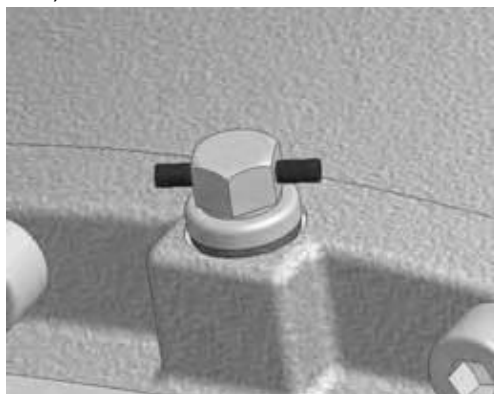

Figure 1, un-activated vent plug
- Control gearbox for oil leaks – leave vent plug un-activated on gear until gear is installed and in correct position (see Figure 1).